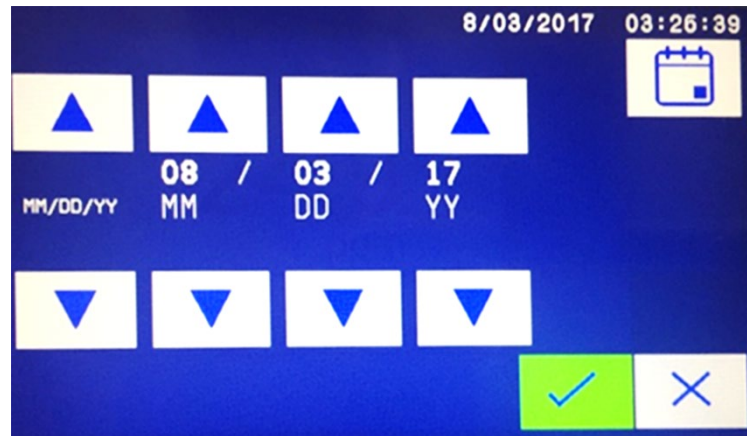
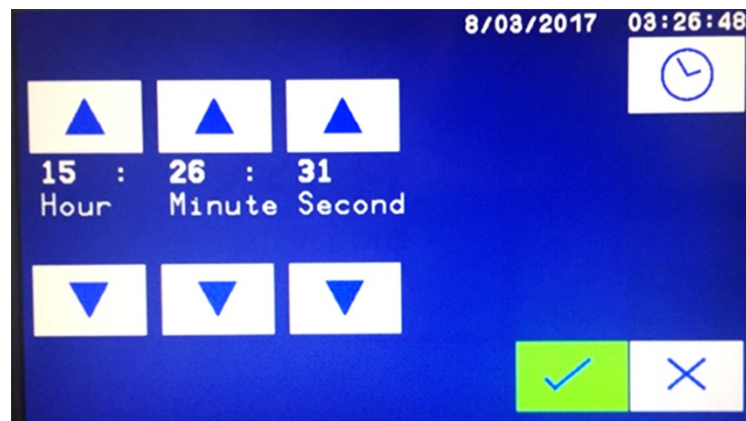
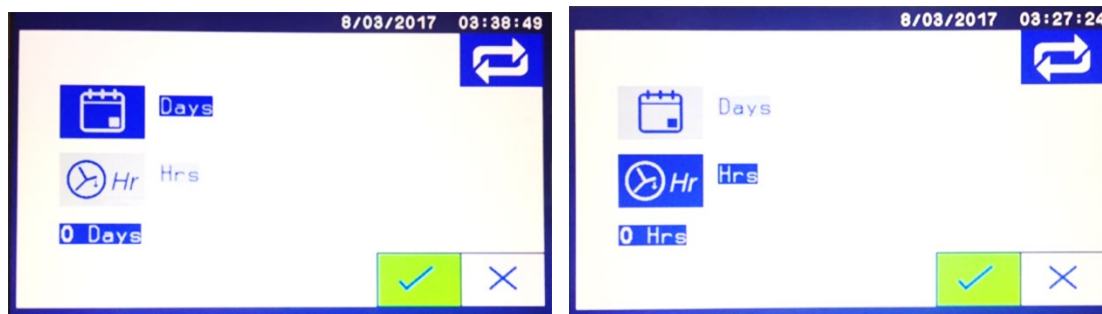

Figure 11-18: Auto-calibration Date setup screen
Figure 11-19: Auto-calibration Time of Day setup screen
Figure 11-20: Auto-calibration Repeat Timing setup screen: Left shows repeat Day, Right shows Hour set
Touch the  icon in Figure 11-18 to accept the Date and take you to the Time screen to set the Hour/Minute/Second for the auto-calibration / auto-validation event.
Touch the  icon in Figure 11-19 to accept the Time and take you to the Repeat Timing screen. This is used to repeat the auto-validation / calibration sequence on a regular basis, every XX Days or every YY Hours.
- For auto-validation or auto-calibration all transducer settings for Date (see Figure 11-18), Time (see Figure 11-19), and Repeat Timing (see Figure 11-20) must be the same.